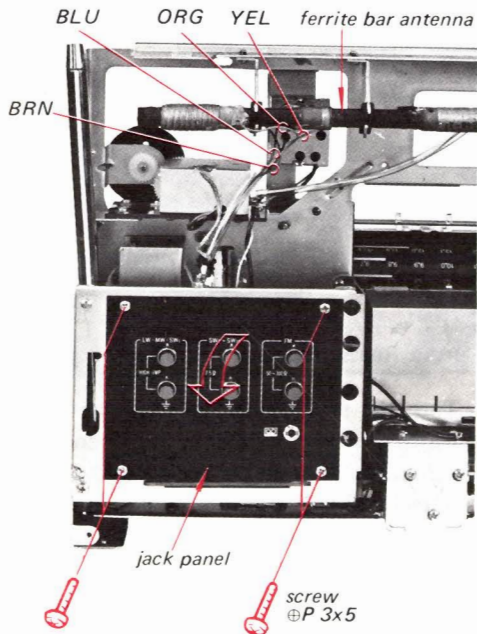
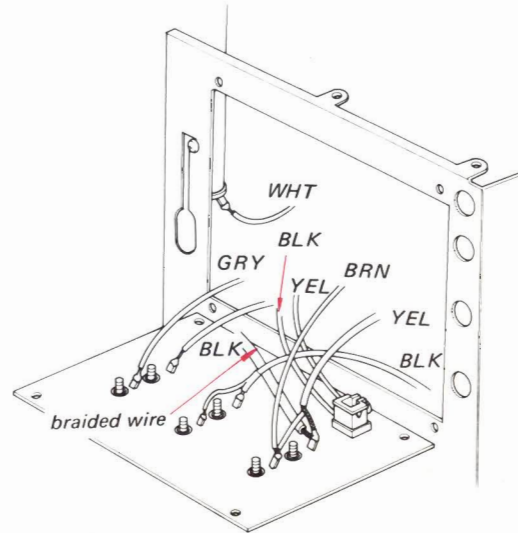

Fig. 2-10
Fig. 2-11
2. Unsolder the six lead wires at ferrite bar antenna as shown in Fig. 2-10.
3. Remove the four screws at the jack panel as illustrated in Fig. 2-10 and unsolder the nine lead wires shown in Fig. 2-11.